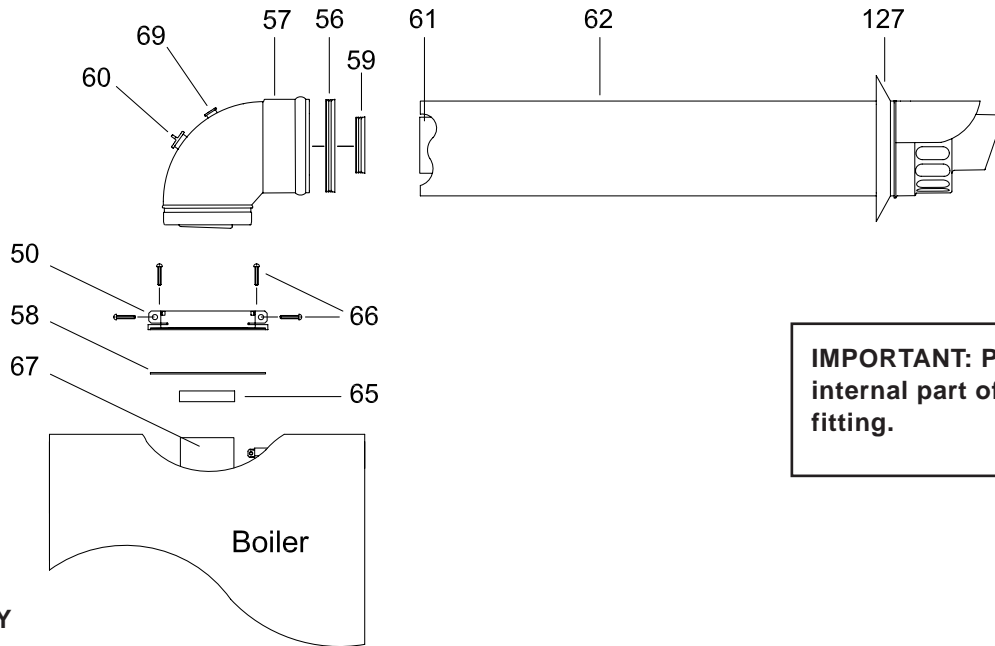

Fig.17
**Important: Make sure that the inner 60 mm diameter of the elbow header is inserted fully into the flue manifold, and the flue manifold rubber seal is correctly fitted. (Fig 17 item 65)**
**Important: Make sure that the inner 60mm diameter of the elbow header is inserted fully into the flue manifold, and the flue manifold rubber seal is correctly fitted. (Fig 17 item 65)**
If an extension must be shortened, this must be done from the straight end, and not from the widened or tapered end. To measure the pipeline properly all components must be assembled and total length measured before cutting. The straight end of the extension connects to the boiler. The flue output and air intake pipes fits into the boiler header until it stops (fig.17 - 18).